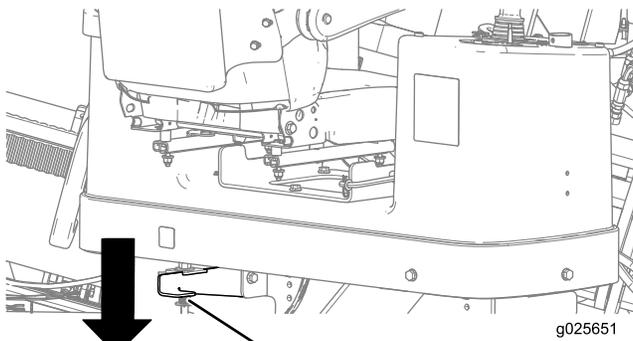

Figure 39
5. Push down on the rear platform latch securing the operator platform, and swing it out to the desired position, ensuring that it locks in place (Figure 39).